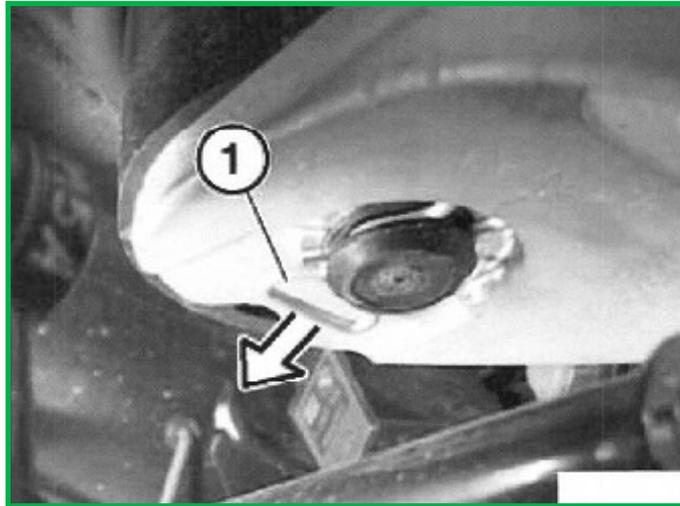

FIGURE 5
7. Detach the locking clip (1) from the bottom of the air spring mount and remove the air spring. (Figure 5)